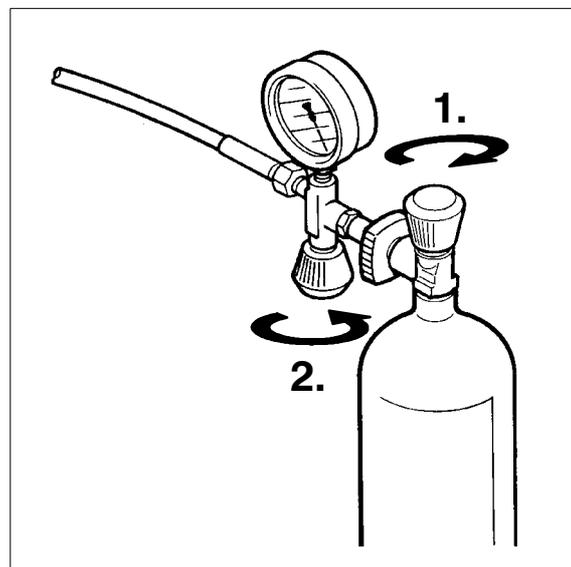

Fig. 25 Removing air bottle
- Upon reaching final bottle pressure **close bottle valve first (1, Fig. 25)**, then filling valve by returning handle to closed position (2).